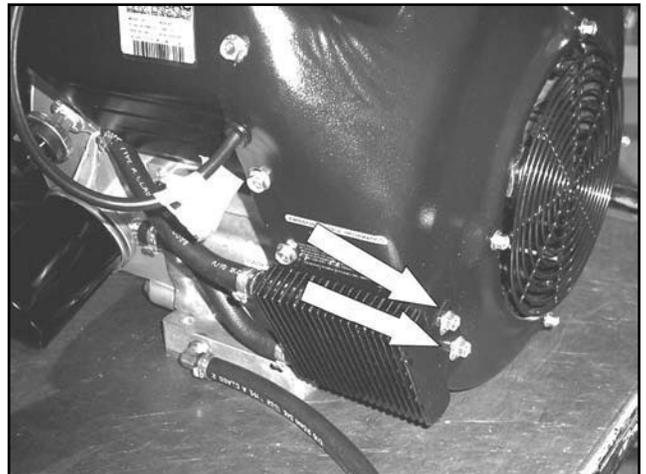
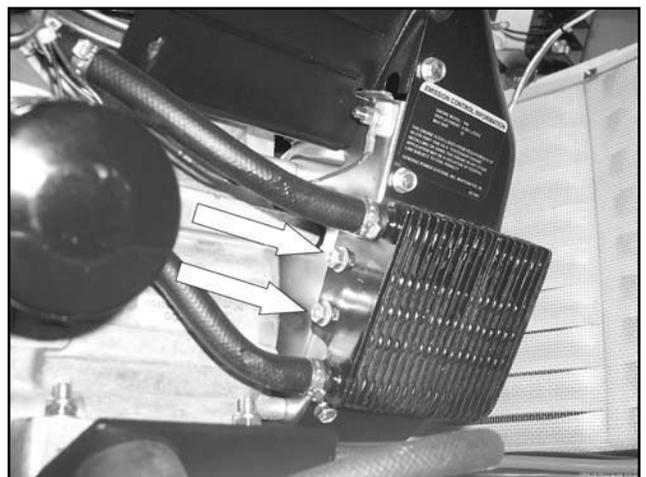

Figure 17.
Figure 18.
13. Unbolt Oil Cooler: Using a 10mm socket remove the two 10mm bolts from the front of the oil cooler. See Figure 17. Remove the two 10mm bolts from the rear of the oil cooler. See Figure 18.